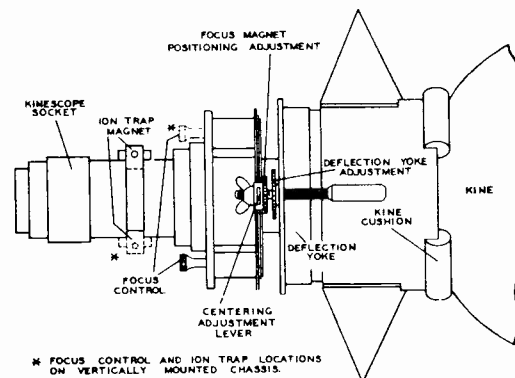

Figure 3—Yoke and Focus Magnet Adjustments
**ION TRAP MAGNET ADJUSTMENT.**—Set the ion trap magnet approximately in the position shown in Figure 3. Starting from this position immediately adjust the magnet by moving it forward or backward at the same time rotating it slightly around the neck of the kinescope for the brightest raster on the screen. Reduce the brightness control setting until the raster is slightly above average brilliance. Turn the focus control (shown in Figure 3) until the line structure of the raster is clearly visible. Readjust the ion trap magnet for maximum raster brilliance. The final touches of this adjustment should be made with the brightness control at the maximum clockwise position with which good line focus can be maintained.